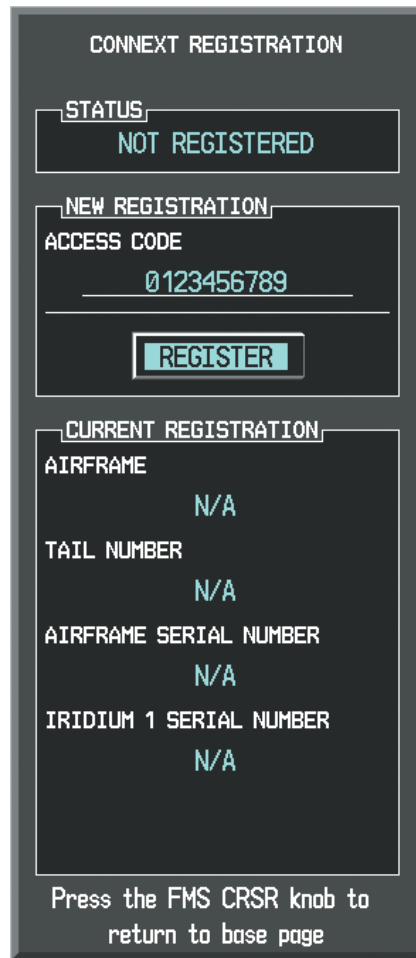

Figure 6-56 Enter Access Code
- 5) Press the **ENT** Key. The system displays the CONNEXT REGISTRATION Window as shown in Figure 6-56.
- 7) Press the **ENT** Key. 'REGISTER' will now be highlighted as in Figure 6-56.